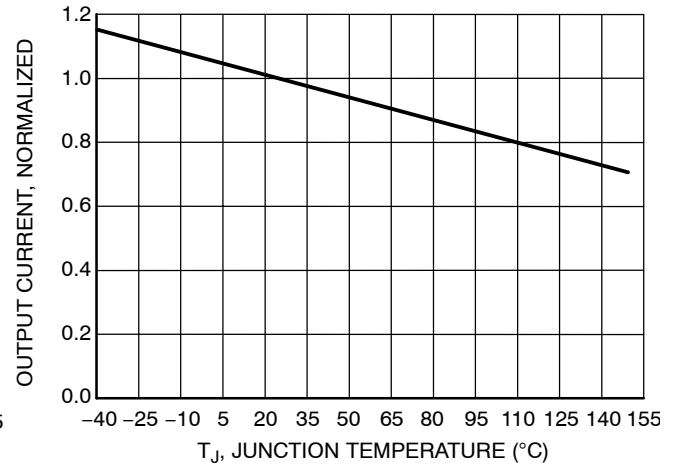

Figure 4. Current Regulation vs. Junction Temperature
10. Calculate the junction temperature using the thermal information on Page 8 and refer to Figure 4 to check the output current drop due to the calculated junction temperature. If desired, compensate it by adjusting the value of R_{ext} .